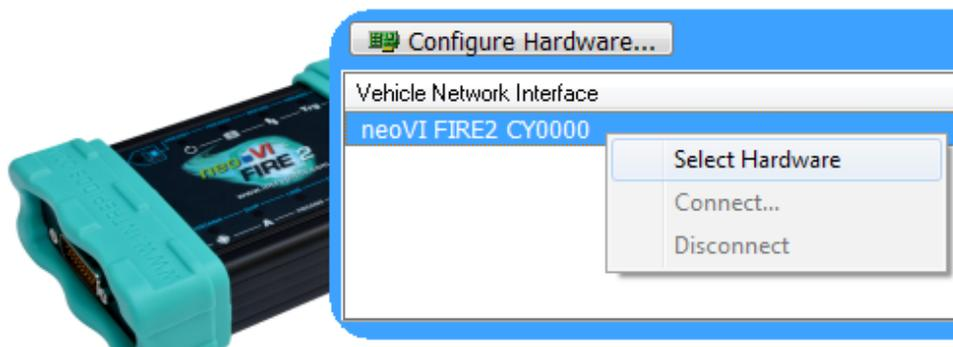

Figure 79: Selecting the neoVI FIRE 2 from the Logon Screen of Vehicle Spy.
2. **Select neoVI FIRE 2:** On the *Logon Screen*, select the neoVI FIRE 2 if it does not already have a checkmark next to it. To do so, right-click the device name and choose *Select Hardware* (Figure 79).
2. **Select neoVI FIRE 2:** On the *Logon Screen*, select the neoVI FIRE 2 if it is not already selected: right-click the device name and choose *Select Hardware* (see Figure 79).